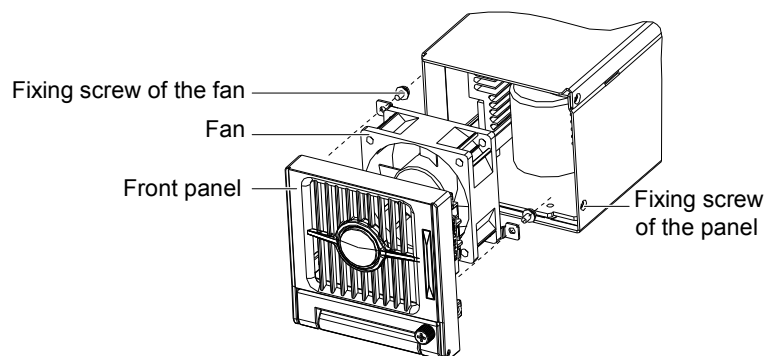

Figure 5-3 Disassembling the front panel
5. Put the front panel back and fasten it with the three screws, as shown in Figure 5-3.